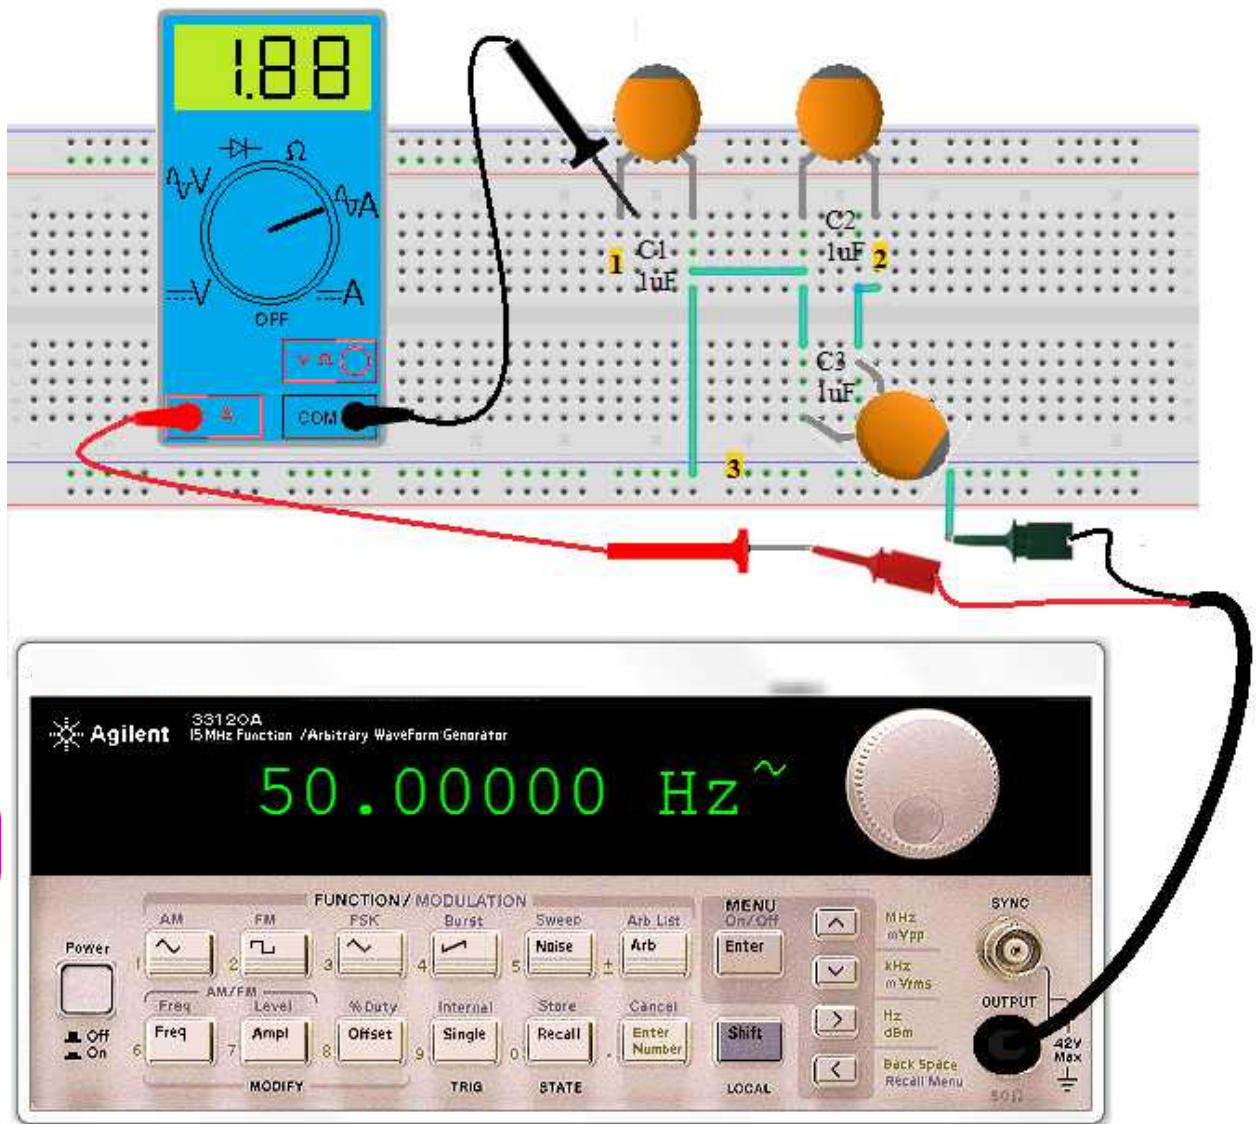

Figure 2-50: For a fixed voltage and fixed frequency, the current varies directly with the capacitance value
1. Connect the circuit as shown in the figure 2-50
4. Connect the neutral of the function generator to ground bus of the breadboard (3) and by using jumper wires, the three leads of the capacitor C_1 , C_2 and C_3 are interconnected to ground
5. Connect the multimeter's red lead to the line output of function generator and the black lead of the multimeter to the lead of the capacitor C_1 (2) and then observe the ammeter reading. The ammeter reading is about 1.88mA.
6. Move the black lead of multimeter to the leads of capacitor C_2 parallel to C_3 (2) and again observe the ammeter reading. The ammeter reading is about the twice the previous reading.